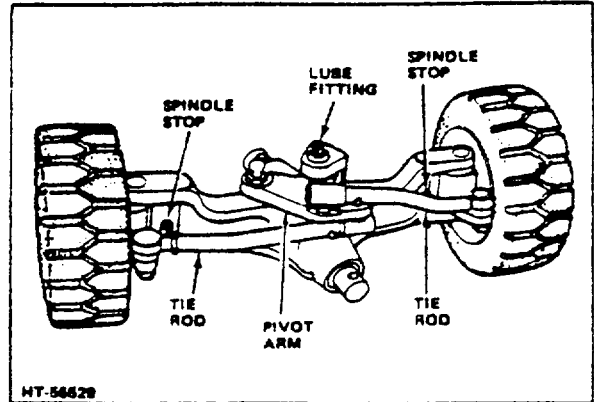

Figure 2-1. Steer Axle Assembly
- b. Loosen locknut and adjust spindle stop (Fig 2-1) to proper clearance if necessary. After adjustment is completed, hold spindle stop in place and tighten locknut securely.